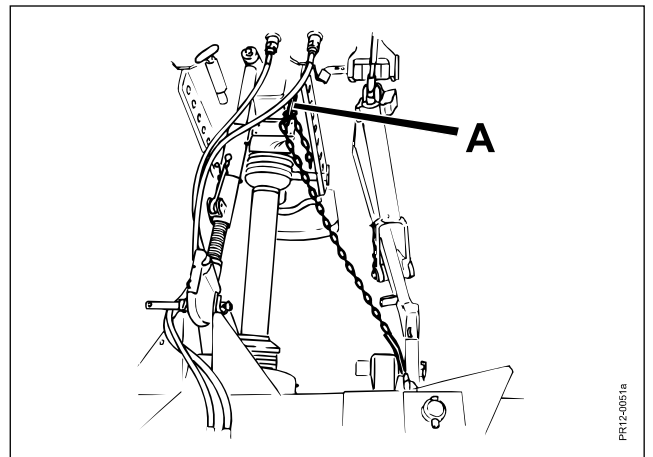

Fig. 2-14
- Fig. 2-14 9) The length of the support chain is adjusted by **A**, so that the lift arms are kept at the required working position.